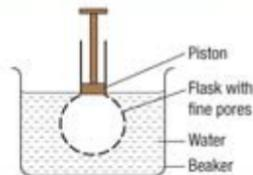

Figure 8.2
2. Prepare the apparatus set-up (Figure 8.2).